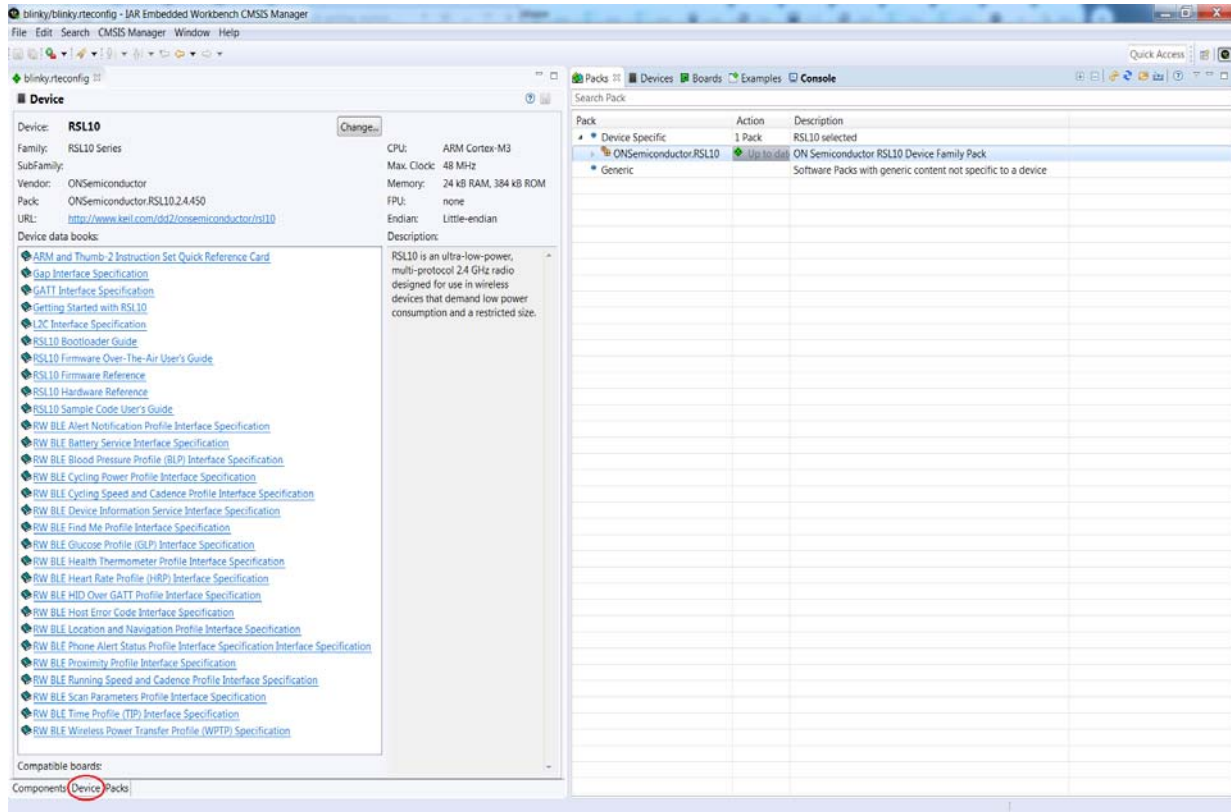

Figure 56. Accessing RSL10 documentation from the IAR Embedded Workbench
- IAR Embedded Workbench: documentation is accessible through the **IAR Embedded Workbench CMSIS Manager** window, as shown in Figure 56 on page 49.